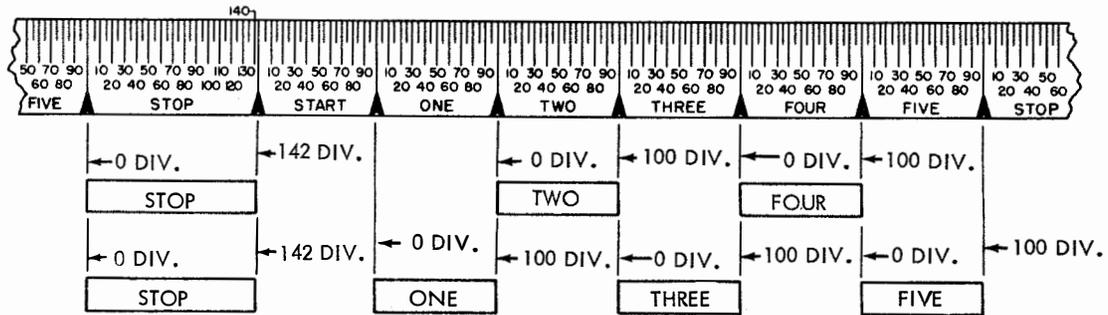

Figure 2 - Pulse Length Requirements for Distributor Contacts No. 1 Through No. 5
(2) Replace Blank combination by an R perforated tape and orient the test-set scale to align the 142 mark of its stop segment with the end of the stop pulse image. Length of the trace for the No. 2 and No. 4 contacts shall be equal within \pm 4 divisions on each end of the No. 2 and No. 4 segments of the test-set scale. (See Figure 2.)
(3) Replace the R perforated tape with Y perforated tape and orient the test-set scale to align the 142 mark of its stop segment with the end of the stop pulse segment. Length of the trace shall be equal within \pm 4 divisions on each end of No. 1, No. 3, and No. 5 segments of the test-set scale. (See Figure 2.)